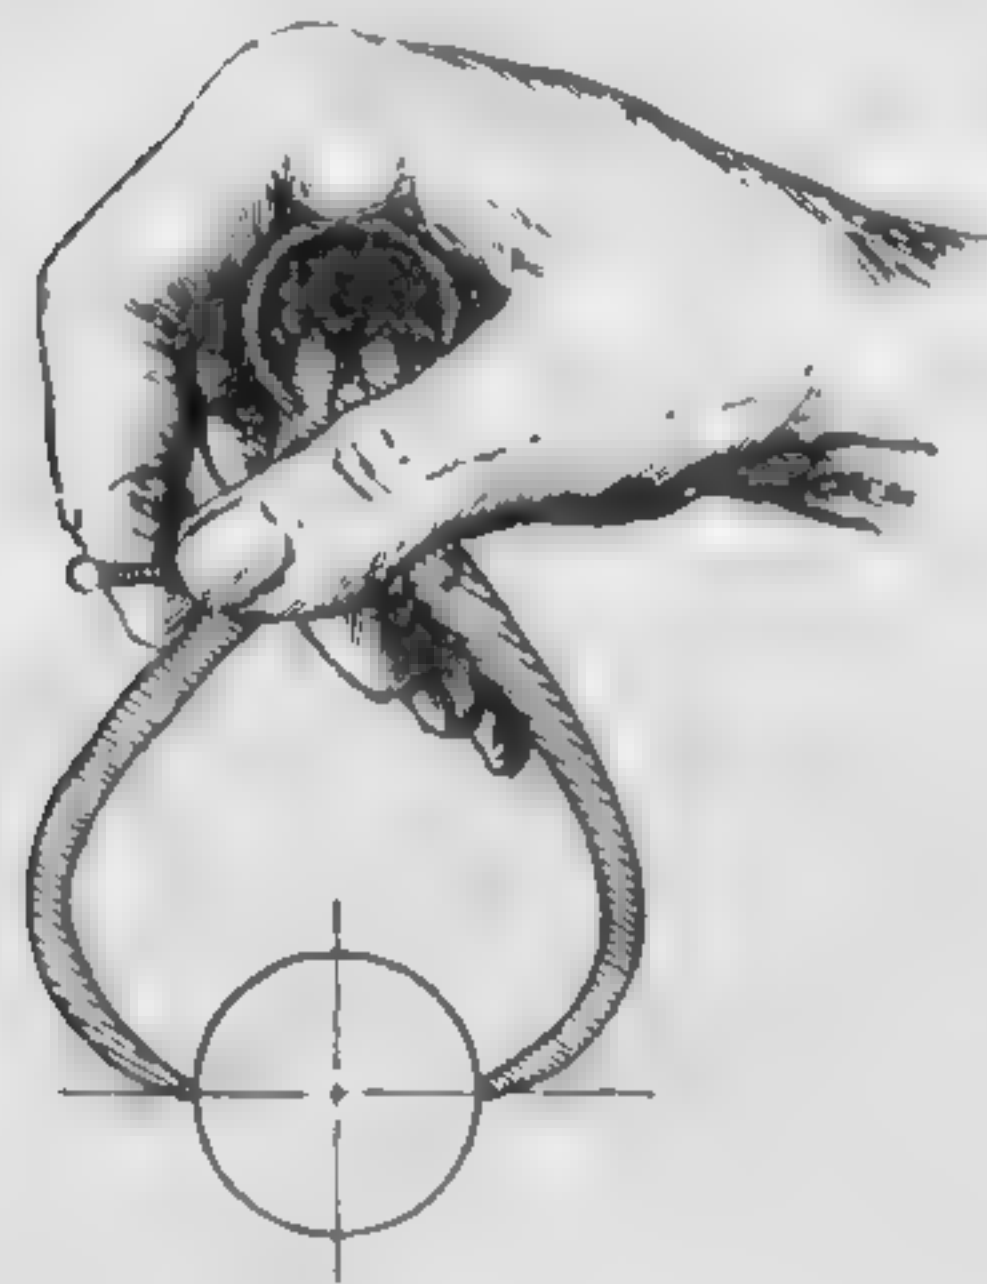

Fig. 12. Setting the Calipers
2. Adjust the caliper so that it will just slide over the work by its own weight, as in Fig. 12.